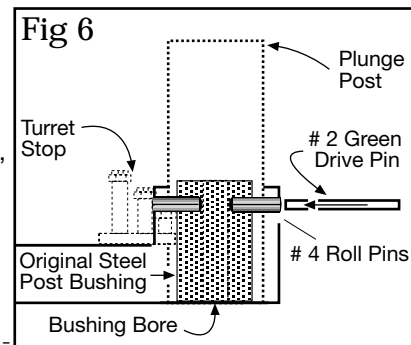

Fig 6
- Select two #4 green roll pins and #2 green drive pin. Using (fig 6) place one green roll pin into hole, drive in until flush with outside of base. Align #2 green drive pin with roll pin, and drive through original steel bushing to opposite side. Check and adjust this roll pin to be flush inside bushing bore. Start second green roll pin into base, drive in leaving approximately 1/16" exposed. Insert #1 mainshaft into post bushing bore, Mainshaft must rotate freely, if not insert punch or screwdriver into post bushing and push #4 rollpins back until flush with inside of bore.
1. The easiest way to prepare the gasket is to first drill the Router Raizer access hole through the original subbase. Place the rubber gasket on a scrap piece of wood. Align the pre-punched 3/4" gasket hole and the Raizer access hole in subbase. Using ink pen, transfer mounting hole locations to the gasket. Using a utility knife or razor blade, hold the subbase in position while cutting around inside and outside of the subbase. Remove subbase and cut mounting holes. Using (fig 6) place the gasket between the router base and subbase or insert.